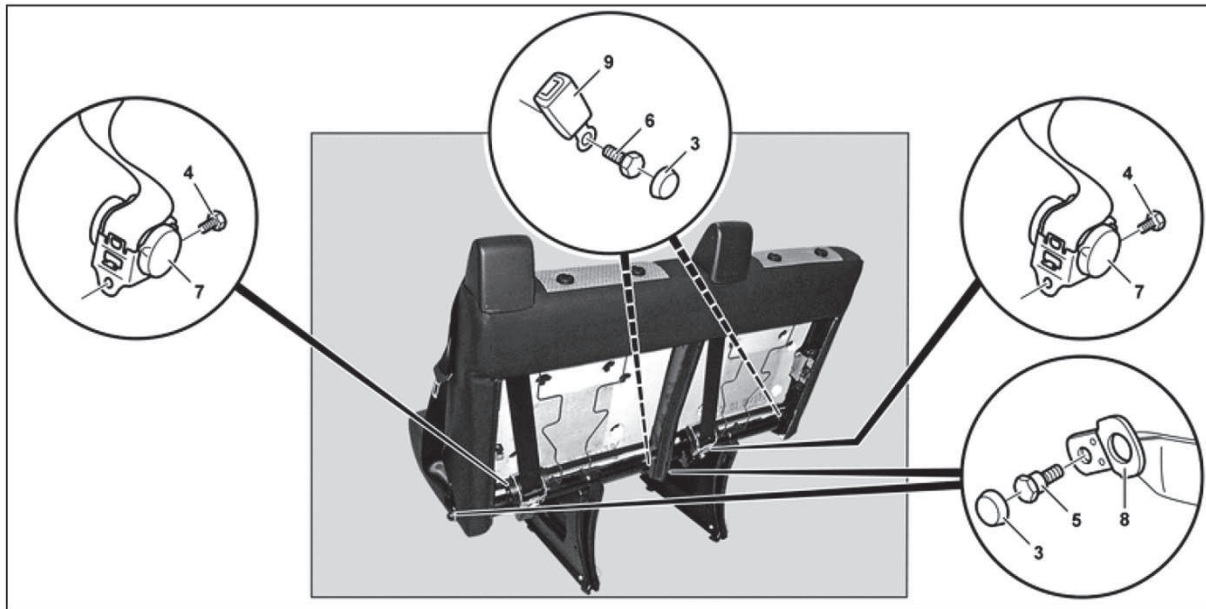

Figure 2 (7: Seat belt retractor; 8: Seat belt end fitting; 9: Seat belt buckle)
2.  Remove bolt caps (3, Figure 2) if equipped.
3.  Check tightening torque of seat belt retractor bolts (4, Figure 2), belt end fittings bolts (5), and seatbelt buckle bolts (6) on all passenger bench seats in vehicle:
- If tightening torque is **NOT OK**: Check that seat belt retractors (7), belt end fittings (8) and seat belt buckles (9) are correctly seated (correct as necessary) then correct tightening torque of mounting bolts to: **37 Nm**.